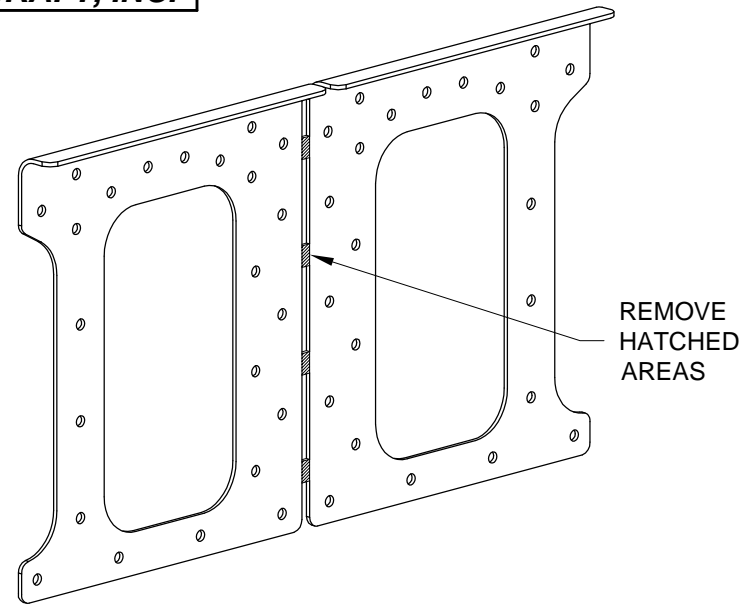

FIGURE 1: F-1203J BULKHEAD DOUBLER
Step 1: Separate the F-1203J Bulkhead Doubler by removing the hatched areas shown in Figure 1.